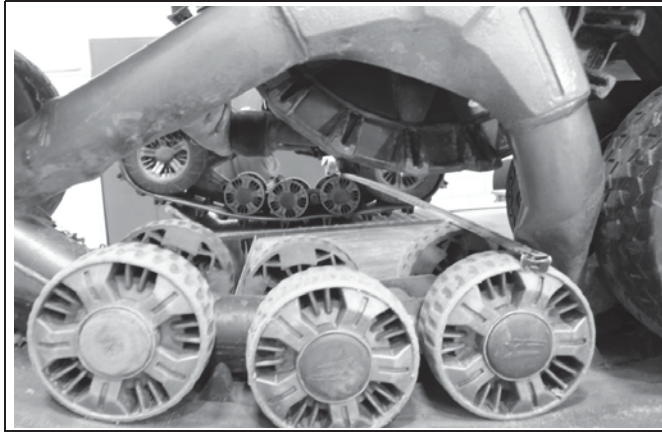
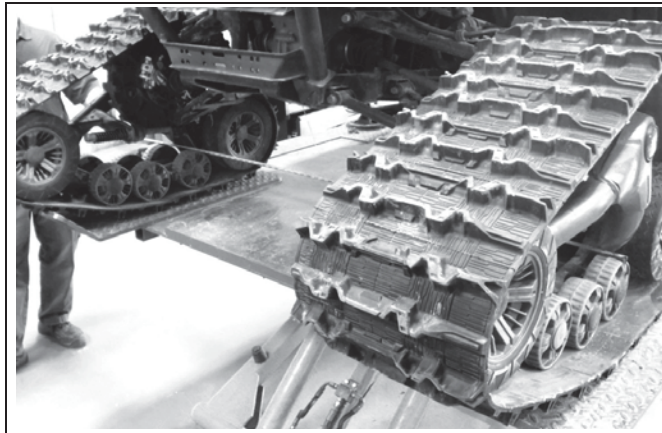

Figure 19 ( Distance between the rear axle wheels)
Figure 20 ( Distance between the rear axle wheels)
**Measure B:** Measure the distance which separates the external wheels of the rear axle on the front track systems. See Figure 19 and Figure 20.